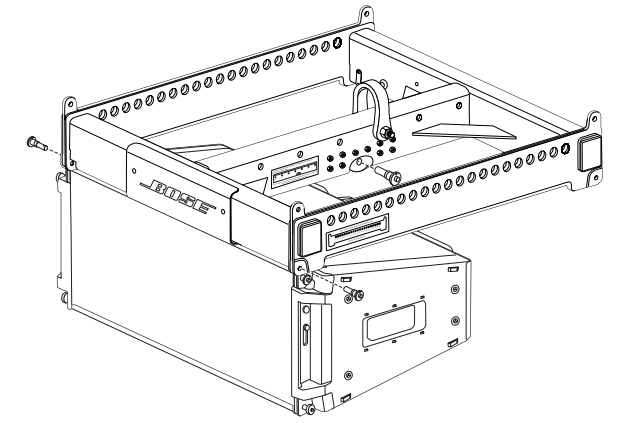

Fig. 2. Insert pins to attach module to frame.
10. Insert two front pins (one on each side), then insert rear center pin to secure module to frame. See Fig. 2.